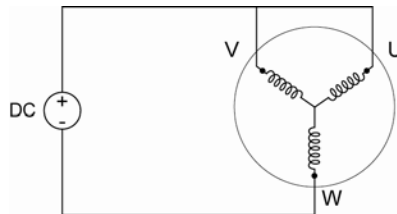

Figure 49 Hall Connection Diagram
1. With the motor's feedback cable connected to the drive, randomly connect two motor power wires and slowly apply a positive voltage with respect to the third. See Figure 49 on page 191.
2. Remove the motor power leads, leaving the feedback cable connected to the drive. Connect motor power wires U and V and slowly apply a positive voltage with respect to W. (See Figure 49.)